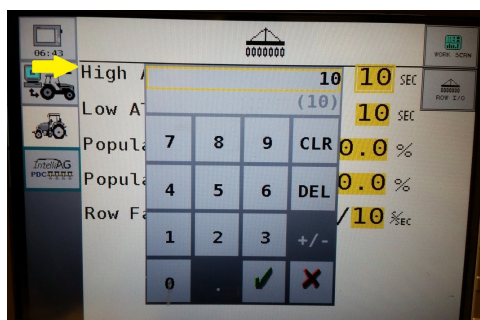

Figure 32
Step 3. Select **High Alarm Delay** and enter. This is the amount of time you want it to pause before it alarms you of a high population. The factory default is 10 seconds. (Figure 32)